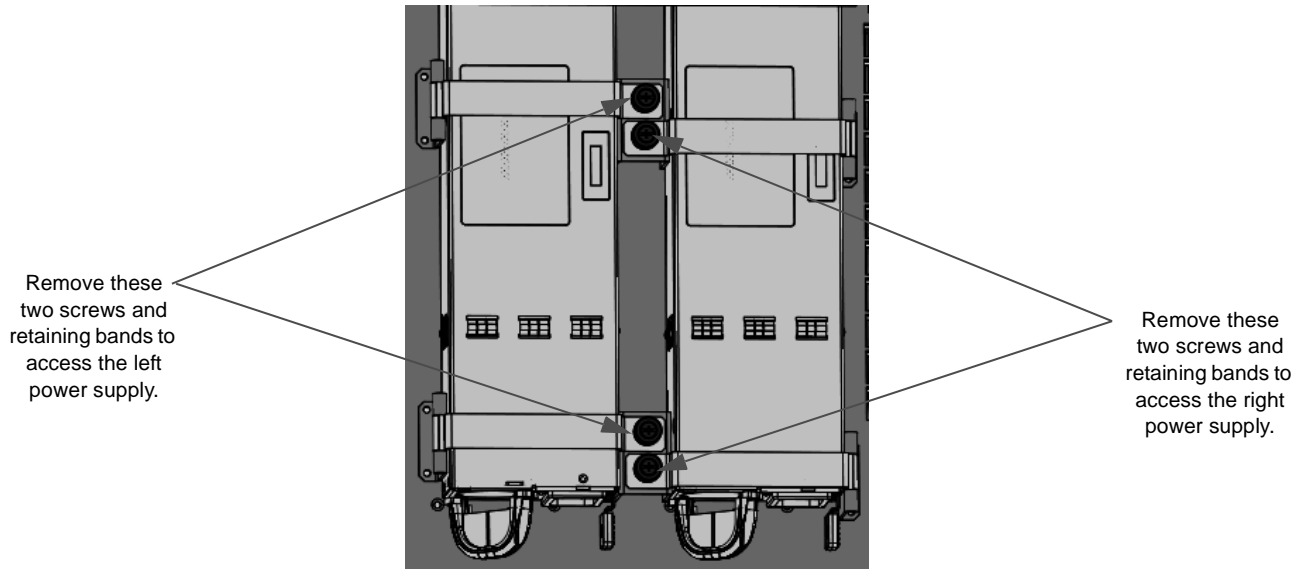

Figure 1-16 Power Supply Removal (Part 1 of 2)
2. Remove the two Phillips screws that secure the restraining bands for the power supply that you want to remove. Lift the restraining bands out of the enclosure (refer to Figure 1-16 on page 44).